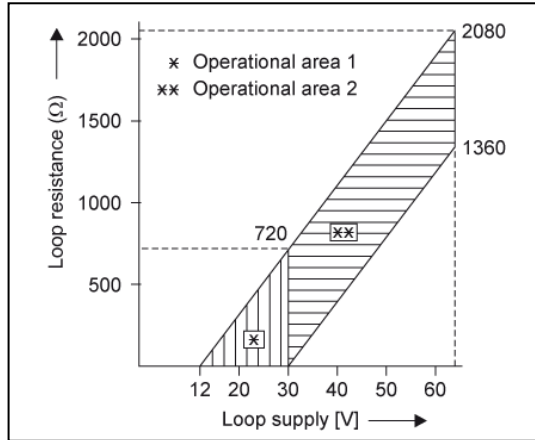

Figure 9 Selecting the external loop resistor
- Analog output : Option. Use shielded cable. External supply voltage: 12 to 64 Vdc. See figure 9.
The permitted operational areas are shown in figure 9.